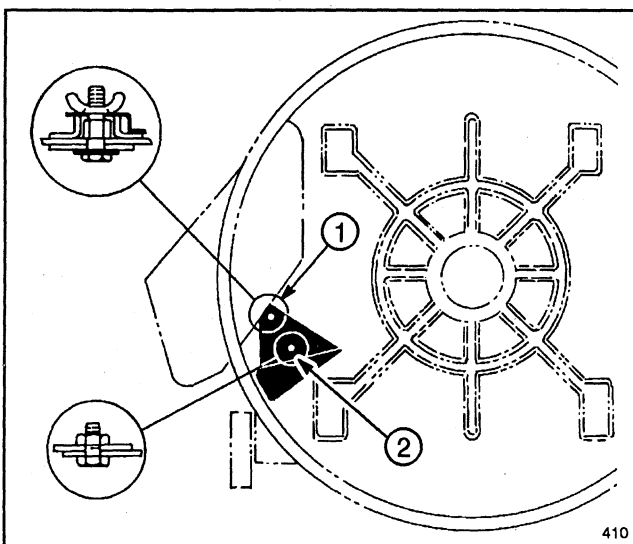

Figure 4 (Bottom View)
1. Begin by installing the kicker near the discharge area. Position the kicker as shown in (Fig. 4), aligning holes in kicker with holes in deck. The capscrew securing the deck baffle was removed from one of the holes.
2. Install, in sequence, the long capscrew, flat washer and lock nut in first kicker hole as shown in (Fig. 4).